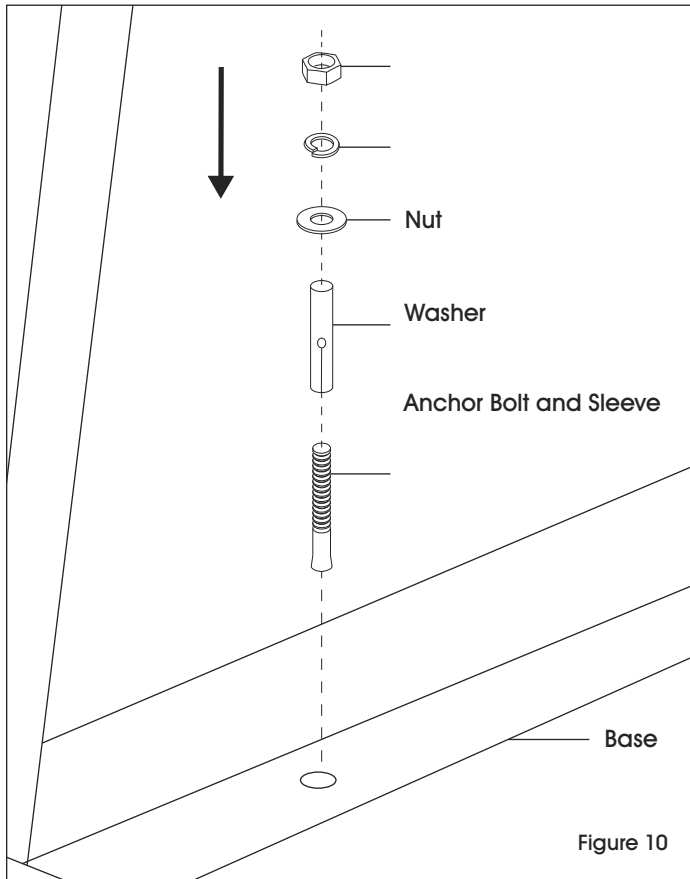

Figure 10
4. Fully insert the anchor bolt and sleeve through the vertical bar rack base and into the hole. Slightly tap down the anchor bolt with a hammer if needed. (See Figure 10)
5. Slide washer over the anchor bolt and sleeve. Tighten the nut with 9/16" wrench until the anchor bolt is secure. (See Figure 10)